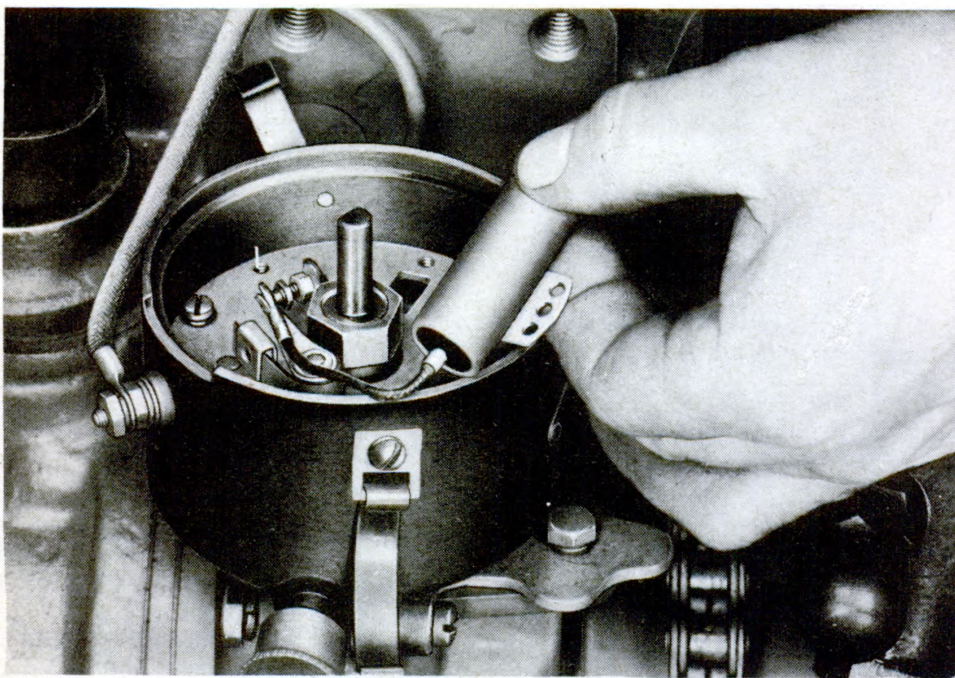

Figure 59 — Condenser Removal
(1) Place condenser in position on breaker plate (fig. 59) in distributor, and secure with machine screw.